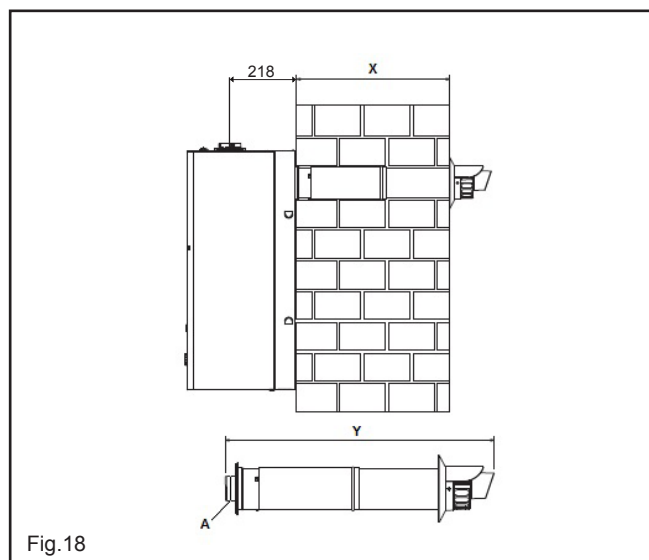

Fig.18
4.5.1.2 FITTING THE REAR FLUE (fig. 18) (rear flue outlet only)
NOTE The inner 60mm pipe of the rear flue terminal must be cut by 12mm at the point indicated (fig.18 pos. A).